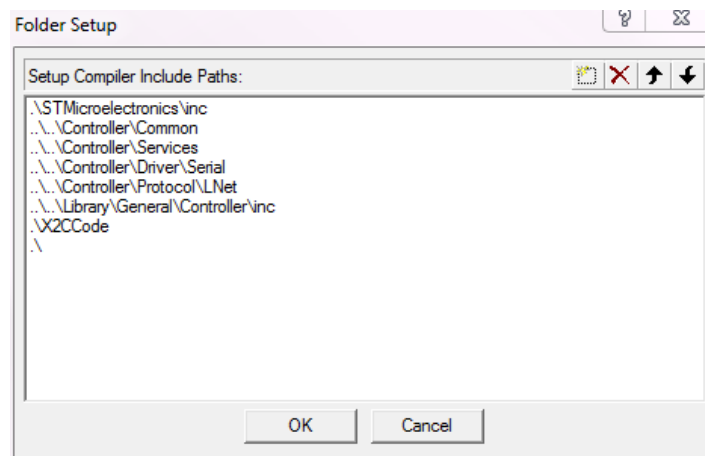

Figure 30: μ Vision include paths setting
3. In the μ Vision file structure of the *Blinky* demo project are two virtual folders *Blocks* and *Core*, which are linked relatively to the X2C directory. If the *Blinky* demo project is copied/moved to a different location, the include paths as seen in Figure 30 have to be adapted.